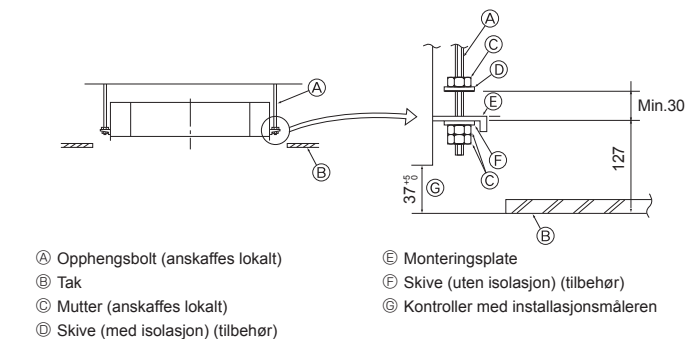

Fig. 2-5
2.5. Prosedyrer for enhetsoppheng (Fig. 2-5)